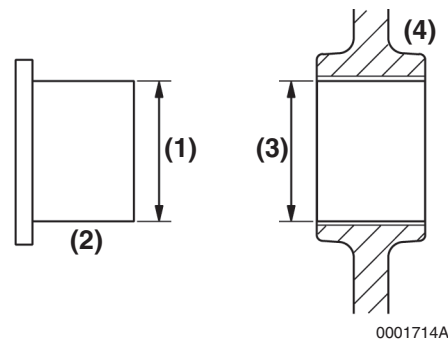

Figure 6-124
1. Measure the outside diameter (**Figure 6-124, (1)**) of the idler gear shaft (**Figure 6-124, (2)**). See *Idler Gear Shaft and Bushing* on page 6-12 for specifications.
2. Measure the inside diameter (**Figure 6-124, (3)**) of the idler gear bushing (**Figure 6-124, (4)**). See *Idler Gear Shaft and Bushing* on page 6-12 for specifications.